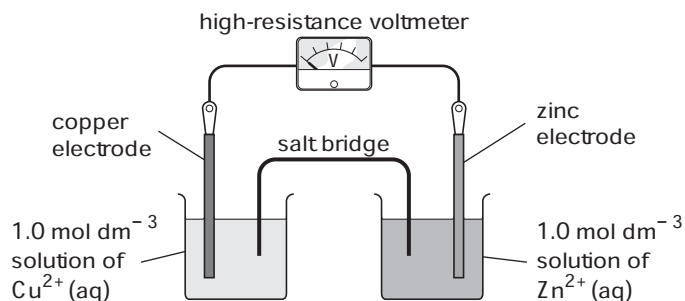

Figure 2 Arrangement for measuring the voltage of an electrochemical cell
- Put the zinc(II) sulphate solution and the zinc strip in the other beaker. This is the zinc half-cell.
- Take a strip of filter paper soaked in saturated potassium nitrate(V) solution, and use it as a salt (ion) bridge to connect the solutions in the two beakers.
- Make sure that you know how to operate the voltmeter you will be using. Then complete the circuit by connecting the copper and zinc strips to the voltmeter as shown in Figure 2.